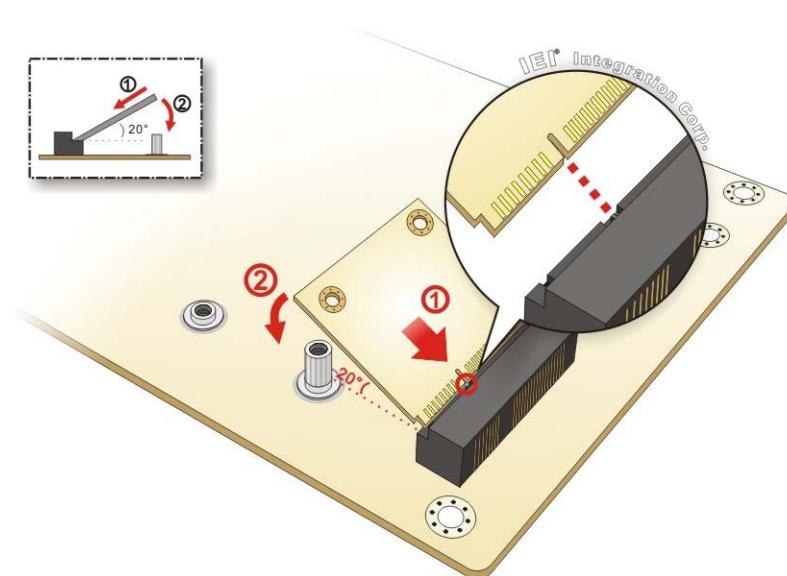

Figure 4-10: Inserting the Half-size PCIe Mini Card into the Slot at an Angle
**Step 5: Insert into the socket at an angle.** Line up the notch on the card with the notch on the slot. Slide the PCIe Mini card into the slot at an angle of about 20° (Figure 4-10).